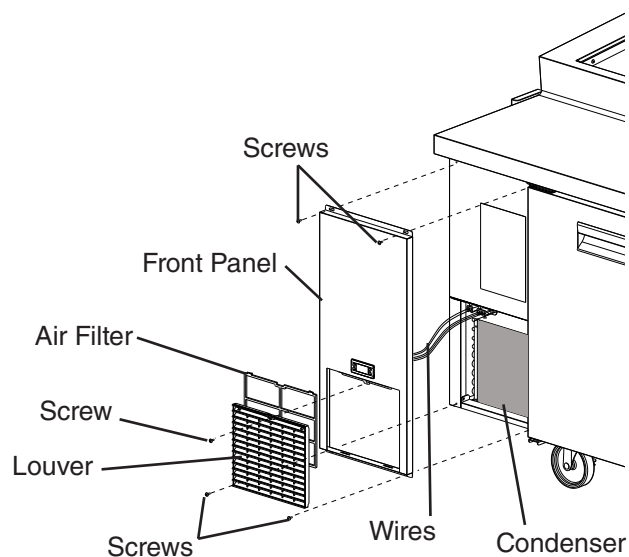

Fig. 39
- 2) Remove the screws (4) securing the front panel, then pull and lift the front panel out slightly to remove it. See Fig. 39. **NOTICE! Be careful not to pull out the front panel too far because there are power wires and thermistor wires attached to the control module in the front panel.**
- 5) Replace the front panel in its correct position. Ensure that the screws (4) are securely in place.